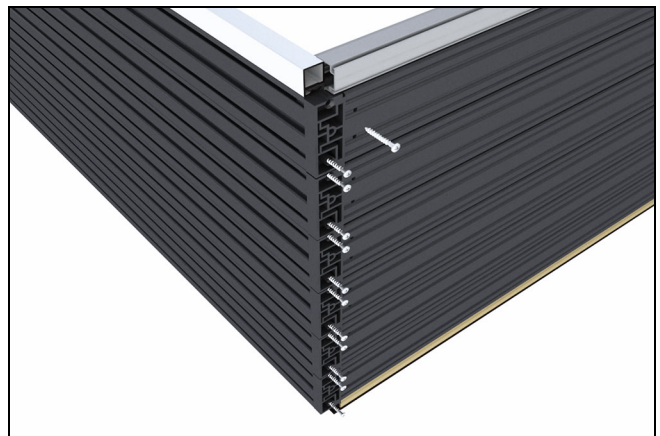

Figure 5
5. Align the side jamb to sill by sliding the corner keys into the sill. Fasten the side jamb and sill through the corner keys using two #8 x 1 3/4" pan head screws per key. See Figure 5.